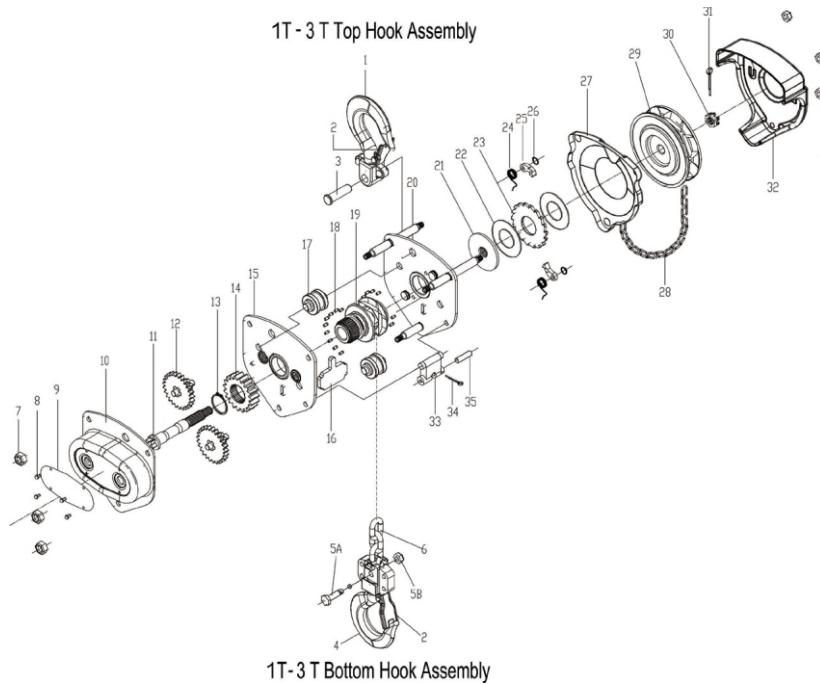

Figure 5- Throat Width
- 5 Hook Dimensions: Inspect the hooks for deformations, chemical damage or cracks. Hooks damaged from chemicals, deformation or cracks, or hooks having throat openings greater than the "reject opening" shown in the table must be replaced. If the hooks are twisted more than 10 degrees from the plane of the unbent hook it must be replaced. See Figure 5.